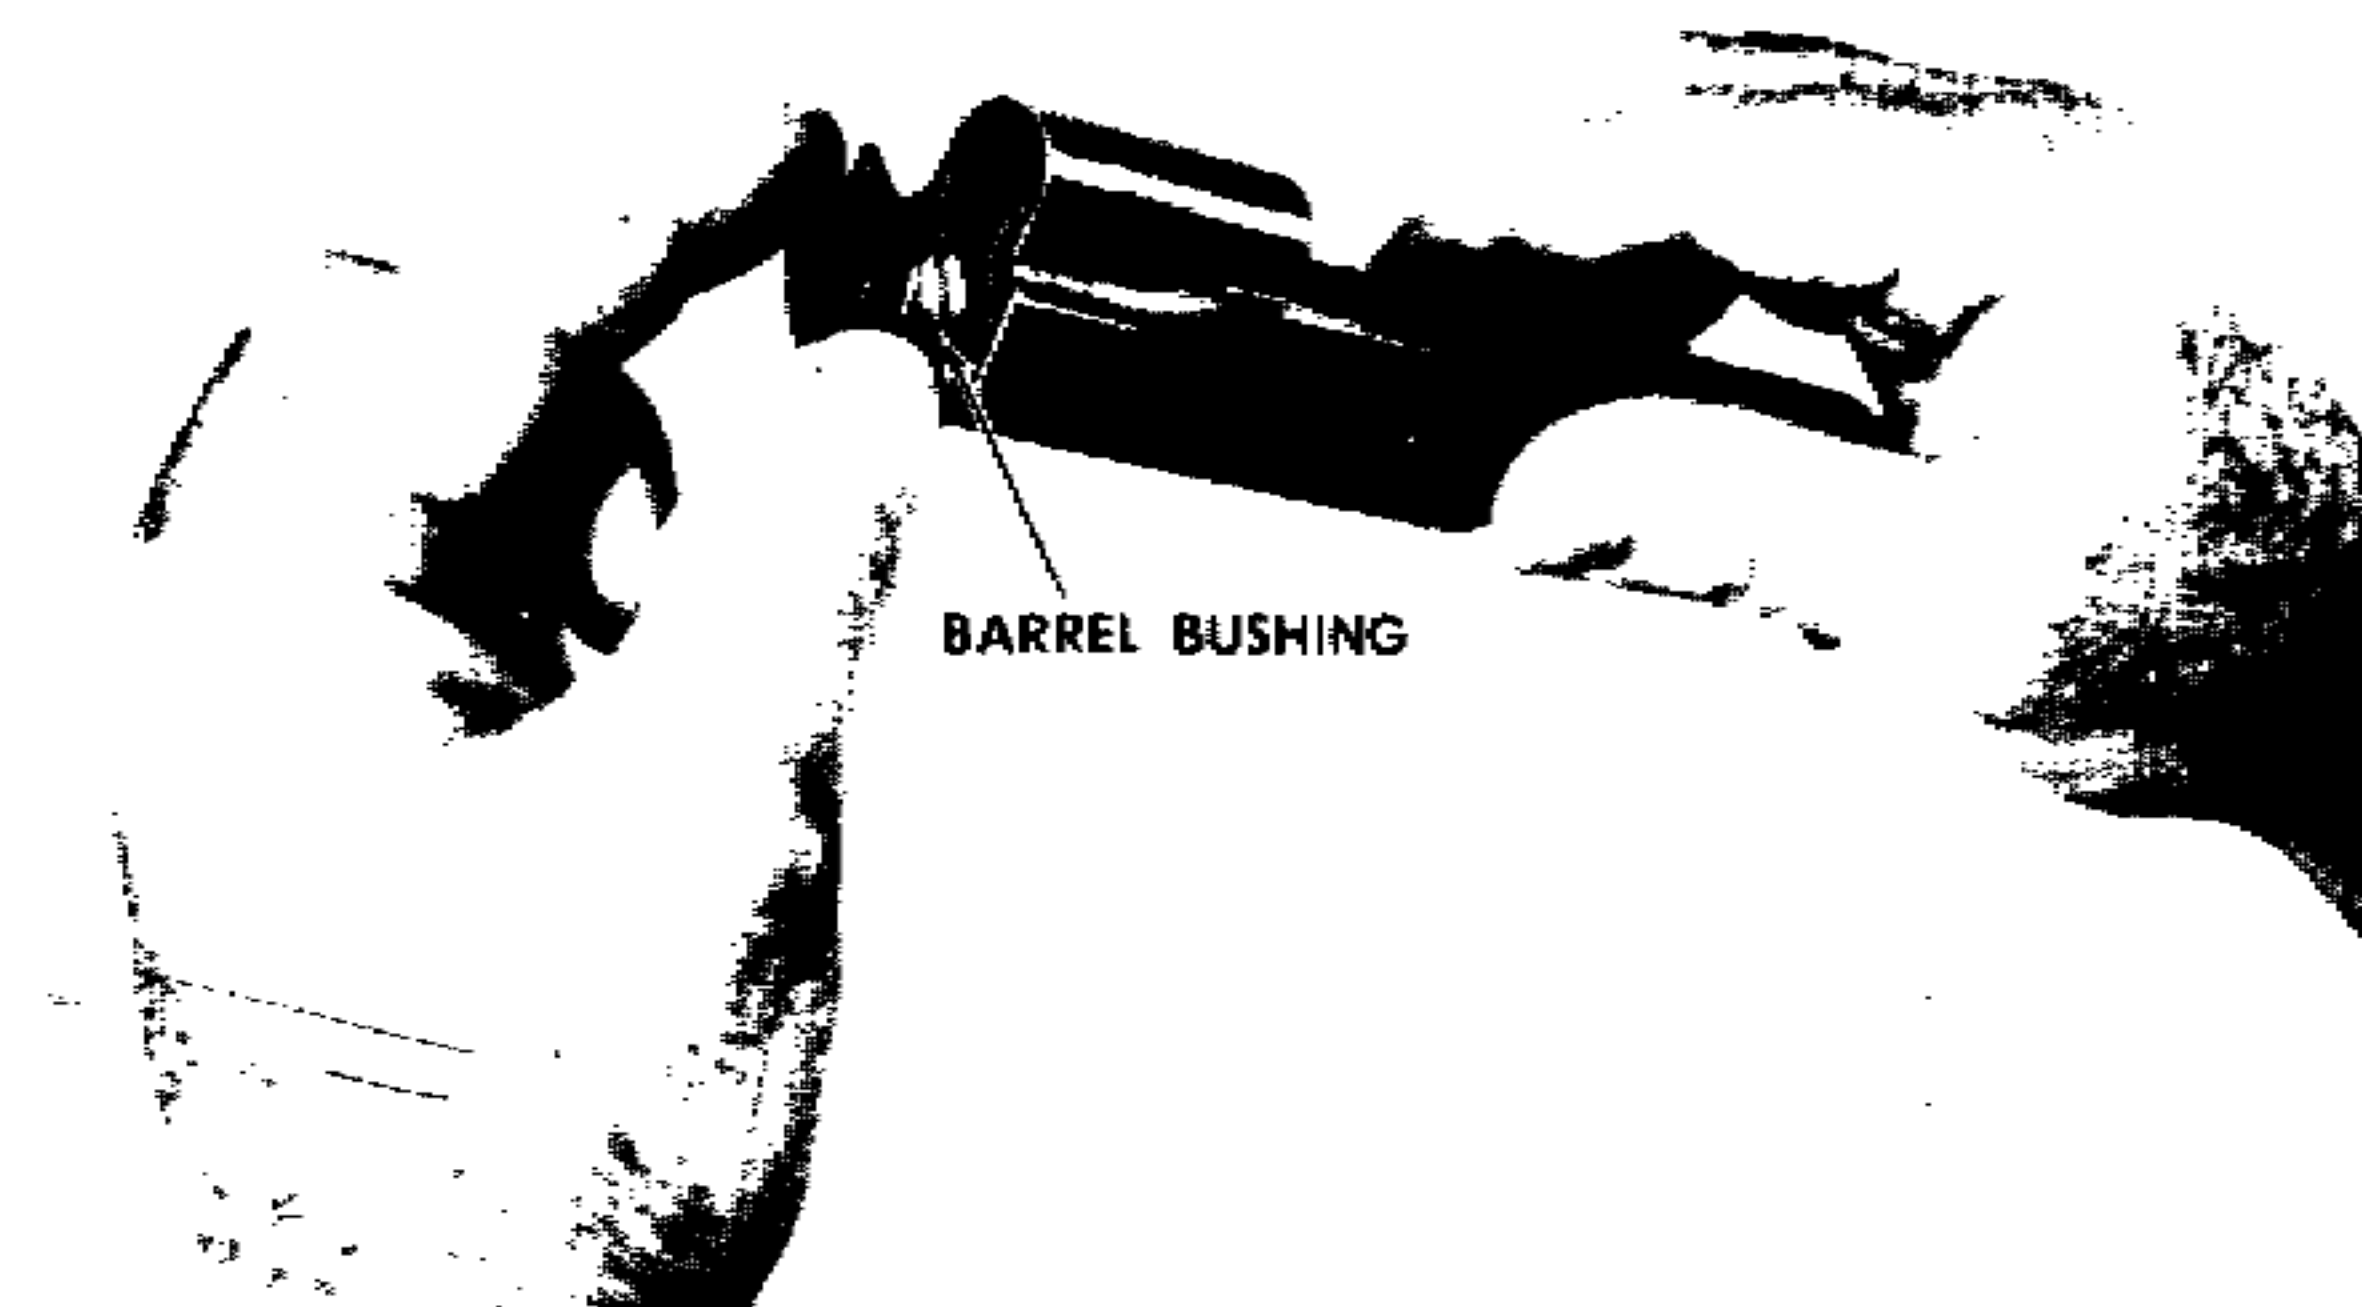

Figure 11. Remove the barrel bushing by turning it counterclockwise and pulling it from the slide.
b. *Barrel Bushing.* Place the barrel bushing on the muzzle end of the barrel, push it into the slide, and turn it clockwise (fig.11.).